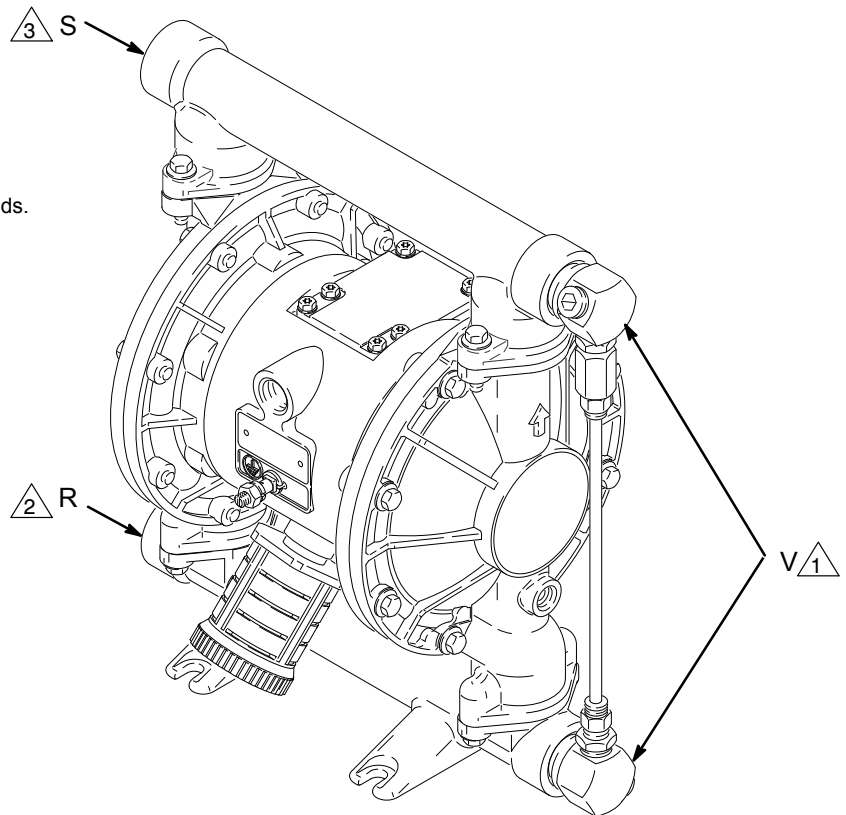

Fig. 7
Pressure Relief Kit 235–409 (V) is available for Aluminum Pumps, Models 236–250, 236–251, 236–252 and 236–253, to prevent overpressurization and rupture of the pump or hose. See Fig. 7 and **Accessories** on page 28. The kit includes instructions.